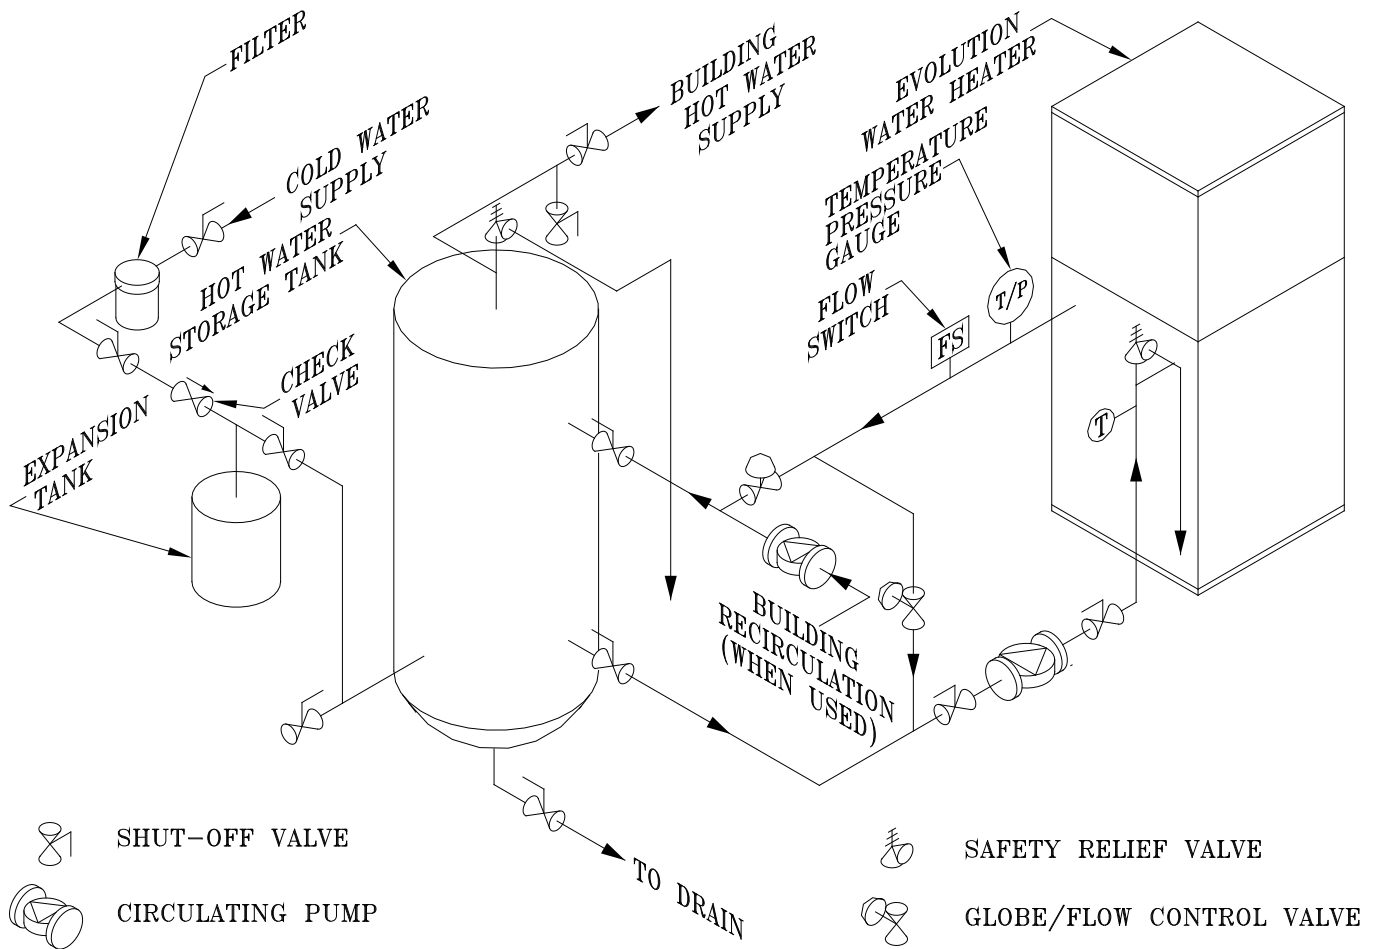

Figure 9: Water Piping
3. Connect system supply and return piping to water heater. Refer to Figure 9. Also consult I=B=R Installation and Piping Guides. Maintain ½" minimum distance between water piping and combustible material. Consult Thermal Solutions for unusual system requirements.